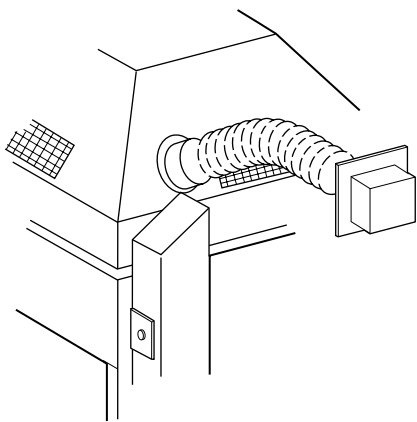

Figure 27
Step 5. Remove one of the knockouts from either the left or right side of the fireplace transition. Attach the 4" (102 mm) collar from the FOAK-4 chimney air kit to the transition, using the four (4) No. 8 x 1½" screws provided (Figure 27).